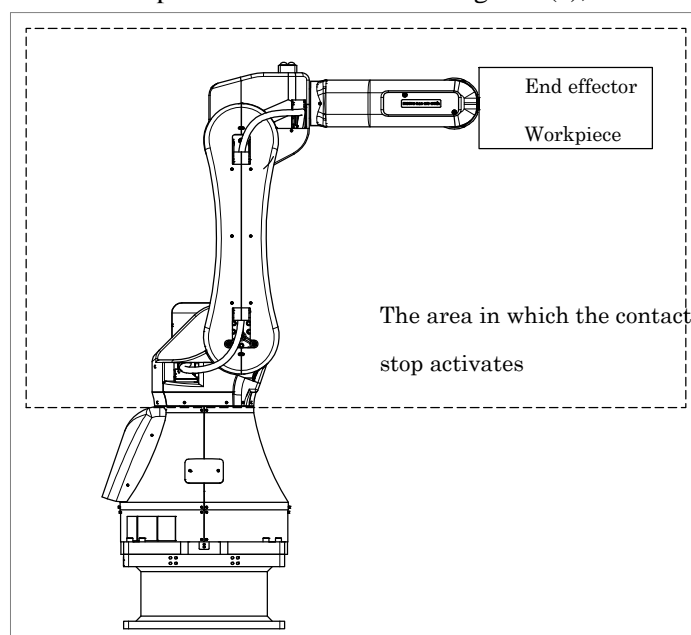

Fig. 3.6 (a) Contact stop parts of robot
- When a person contacts to the parts of robot showed in Fig. 3.6 (a), the robot doesn't stop.